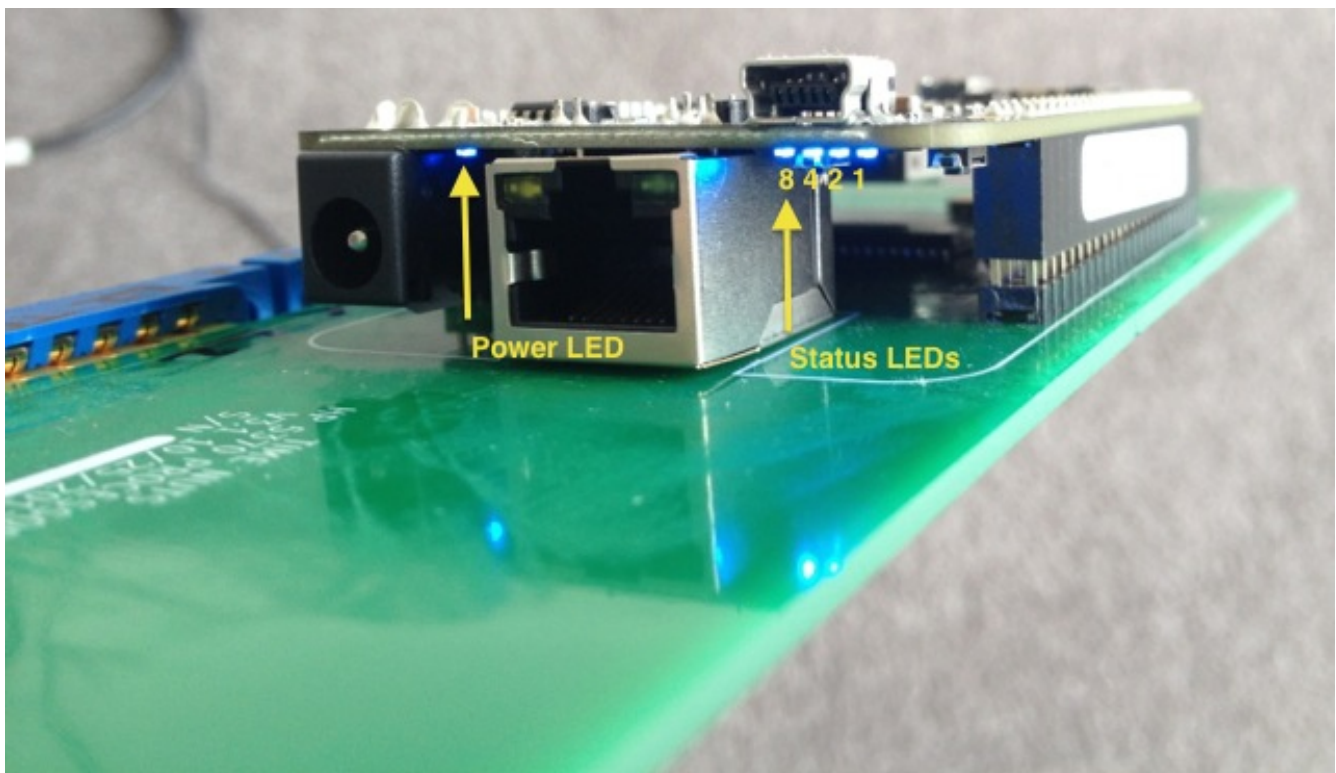

Figure 3: LED locations
3. Apply AC power. As shown in Figure 3 below the power LED will light. The status LEDs will then light and flash as Linux boots on the BeagleBone.
5. If there is an error one of the patterns in Figure 5 will flash ten times. After that the LEDs are turned off and it is safe to disconnect after 15 seconds. Note that the 8-4-2-1 orientation of the LEDs matches what is shown in Figure 3.